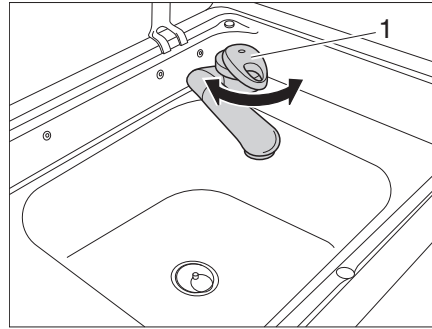

Fig. 47 Sink with water tap
The vehicle is equipped with an installed water canister. An electric water pump pumps the water to the water tap (Fig. 47,1). Opening the water tap automatically switches on the water pump and pumps water to the tap.
- Turn the water tap (Fig. 47/1).
- Turn the water tap (Fig. 47/1) back.